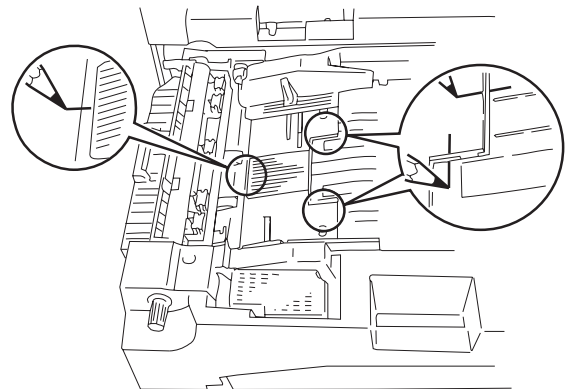

Figure 5-902
- 1) Mark the position of the side guide plate with a pencil or the like. (See Figure 5-902.)
- 2) Remove the two mounting screws ①, and disconnect the two connectors; then, remove the side guide plate assembly ②.